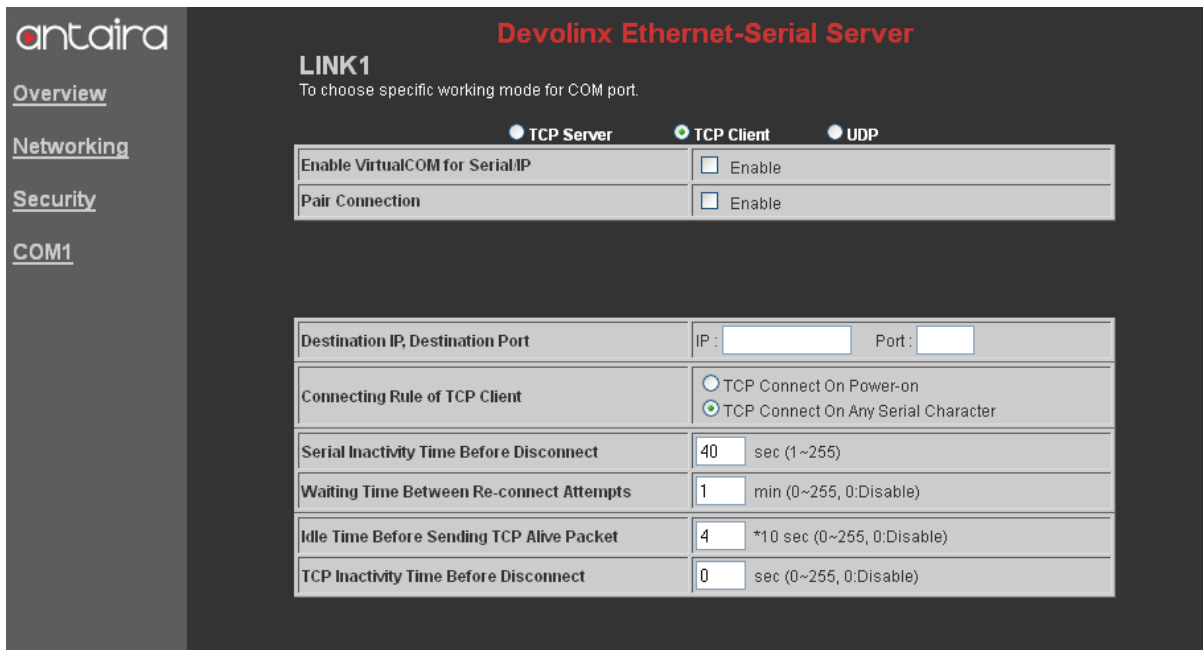

Figure 3.22 Com1 setup-TCP client
- ➔ Configure STE-502C as TCP client, for example the destination IP is 10.0.29.11, destination port is 4660. (Figure 3.22)